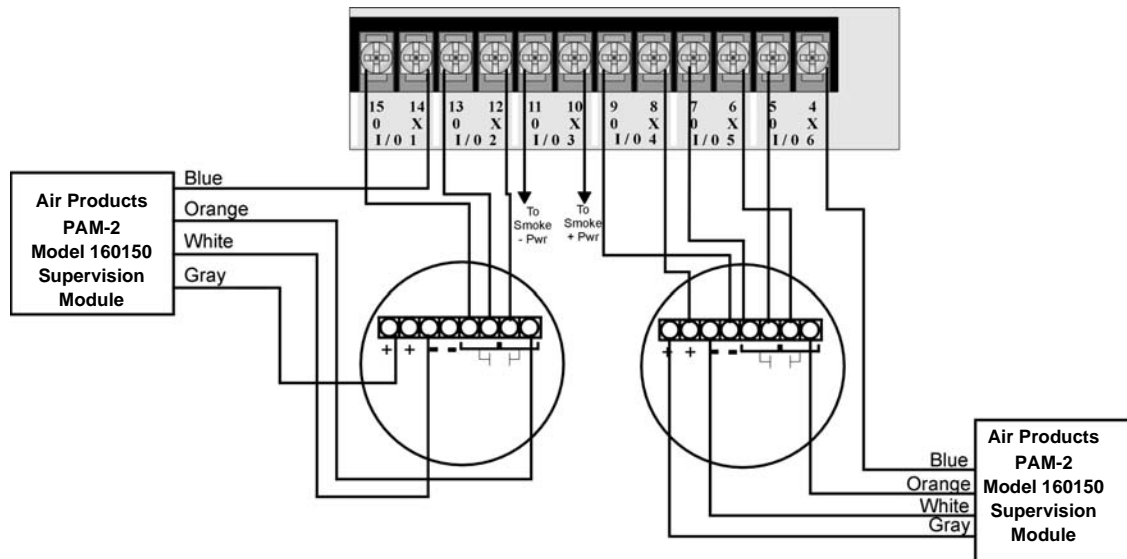

Figure 3-15 Class A 4-Wire Smoke Detector Connections
Figure 3-15 illustrates how to install 4-wire Class A detectors.
- Smoke power is supplied to each Class A loop as shown in Figure 3-15.
Note: In programming any point that uses multiple I/O circuits are always referred to as the lowest I/O circuit number used. For example, Figure 3-15 uses I/O circuits 1, 2, 3 together and 4, 5, 6 together. In programming (1, 2, 3) would be referred to as point 1, and (4, 5, 6) would be referred to as point 4.